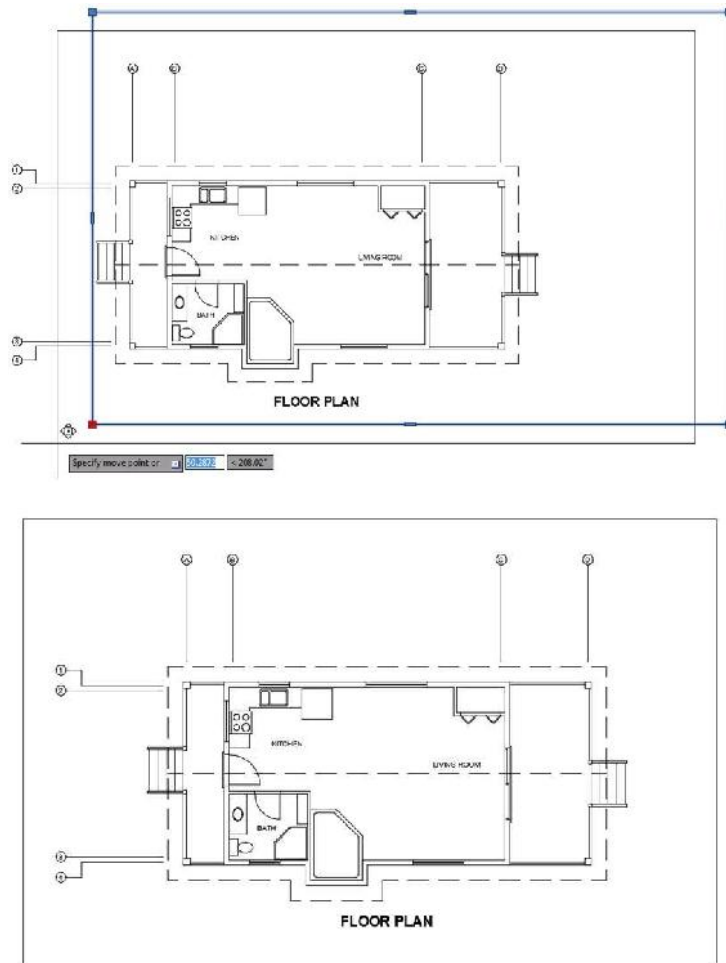

FIGURE 8.41: Moving the rectangle with grips (top) and the results (bottom)
9. Move the rectangle over the drawing (see the top of Figure 8.41).
10. When the rectangle is approximately in the position shown at the bottom of Figure 8.41, click to finalize its placement.